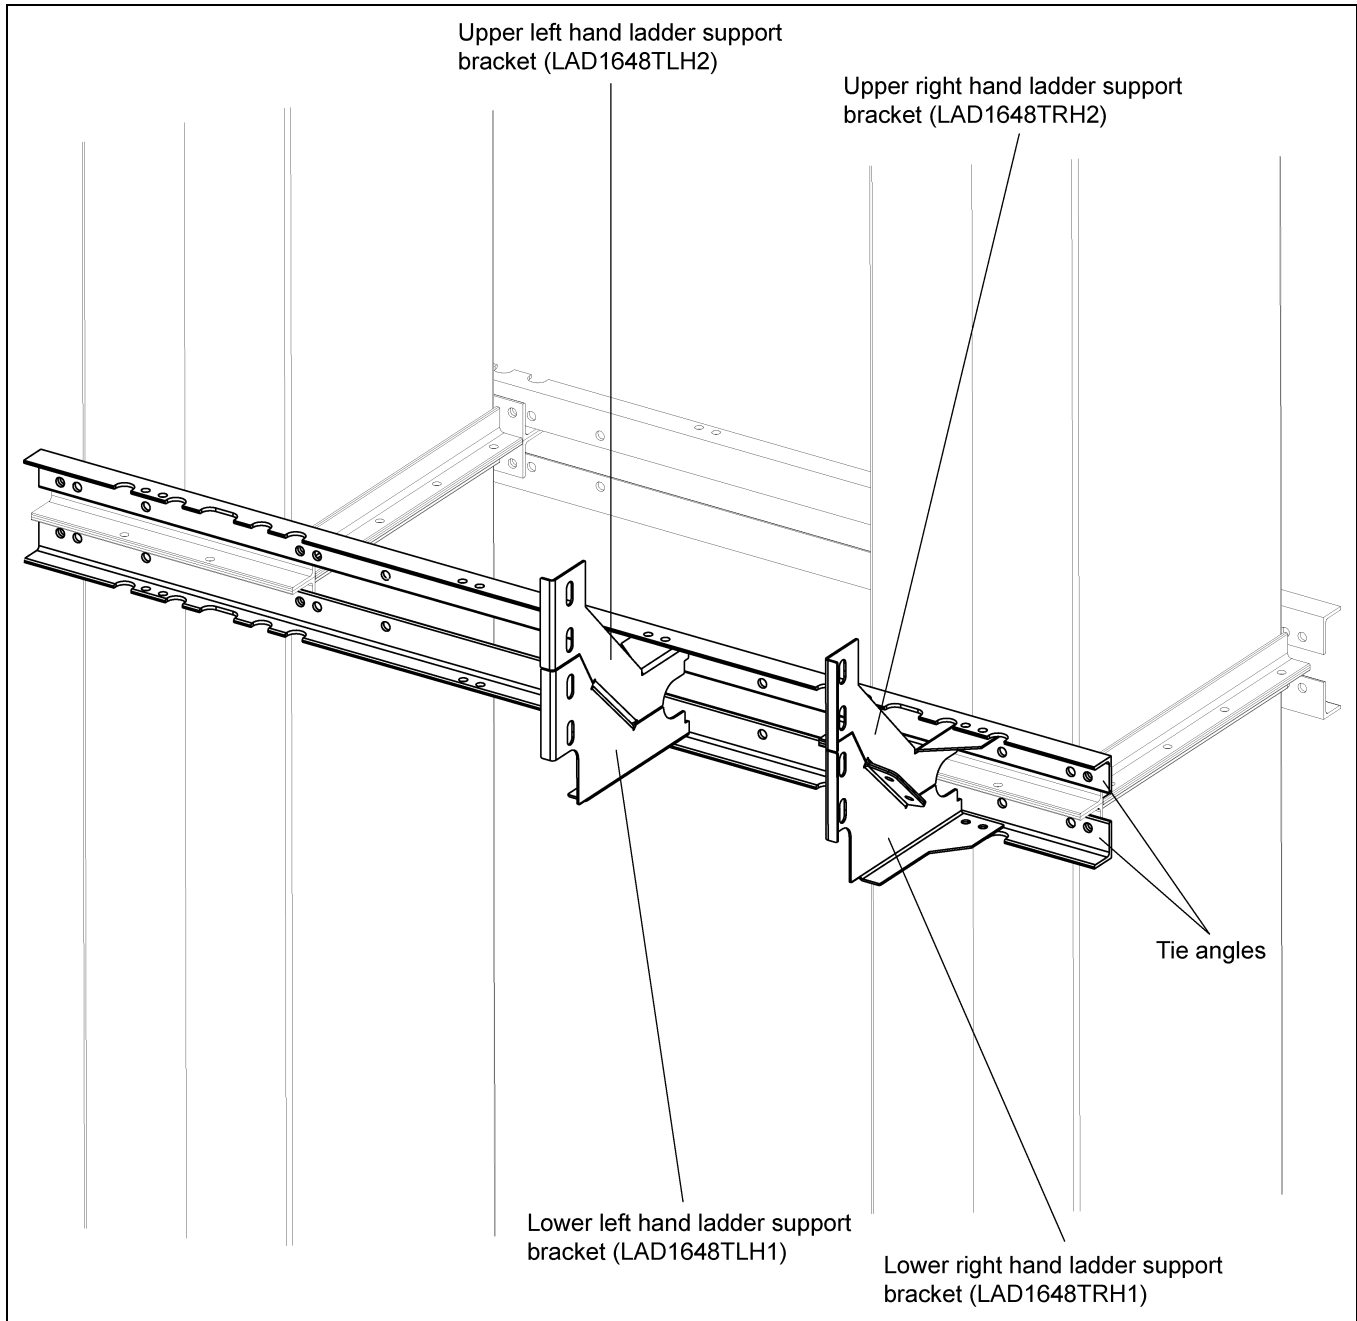

Figure 6J Ladder Support Bracket Parts
1. Attach ladder support brackets to tie angle using 3/8" x 1" hex bolts (S-7469). Use the holes shown in Figure 6J for each size elevator.
3. Mount the lower right hand and lower left hand ladder support brackets to the bottom tie angle with 3/8" bolts. (See Figure 6J.)